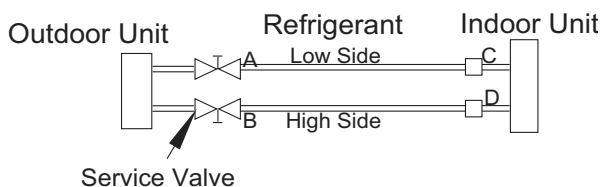

Fig. 6 — Service Valve
1. Completely tighten the flare nuts (A, B, C, D, E). Fully open all circuits service valves. Connect the manifold gage charge hose to the charge port of the low side Master service valve to evacuate all circuits at the same time (see Fig. 6).